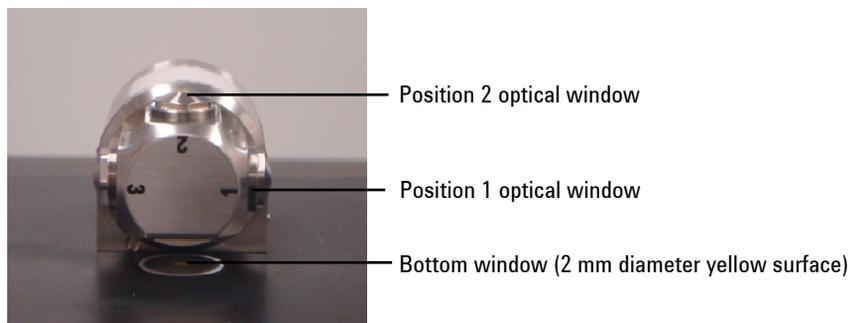

Figure 7. DialPath with optical window facing up
In the sample loading and cleaning mode, the DialPath is rotated so the optical window is facing up (see Figure 7). In this position, the sample mounting area can be easily accessed for loading the sample into place and for cleaning the sampling surfaces before the next sample is analyzed.
- 1 Rotate the DialPath so that optical window Position 2 is pointing upward (see Figure 7).